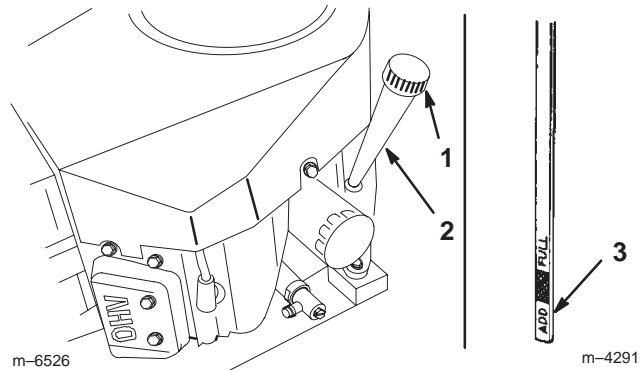

Figure 20
2. Clean around the oil dipstick (Fig. 20) so that dirt cannot fall into the filler hole and damage the engine.
3. Unscrew the oil dipstick and wipe the metal end clean (Fig. 20).
4. Slide the oil dipstick fully into the filler tube, but do not thread it onto the tube (Fig. 20). Pull the dipstick out and look at the metal end. If the oil level is low, slowly pour only enough oil into the filler tube to raise the level to the **full** mark on the dipstick.
6. Clean around the oil dipstick and unscrew the cap (Fig. 20).
7. Slowly pour approximately 80% of the specified oil into the filler cap (Fig. 20). Refer to Servicing the Engine Oil, page 24.